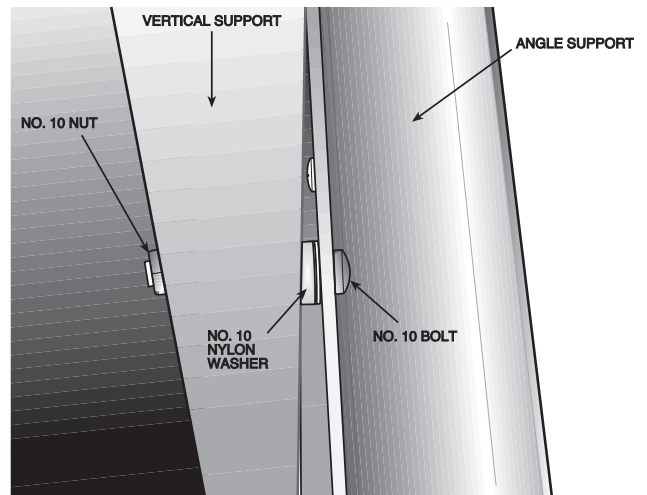

Fig. 4 — Installed Angle Support
7. The first angle support should be installed on the lowest level of the vertical supports. Insert no. 10 bolt through hole in each end of angle support. Place one nylon washer over each bolt. Insert bolts, with washers and angle support, through holes in vertical support and secure each bolt with a nut. See Fig. 4.